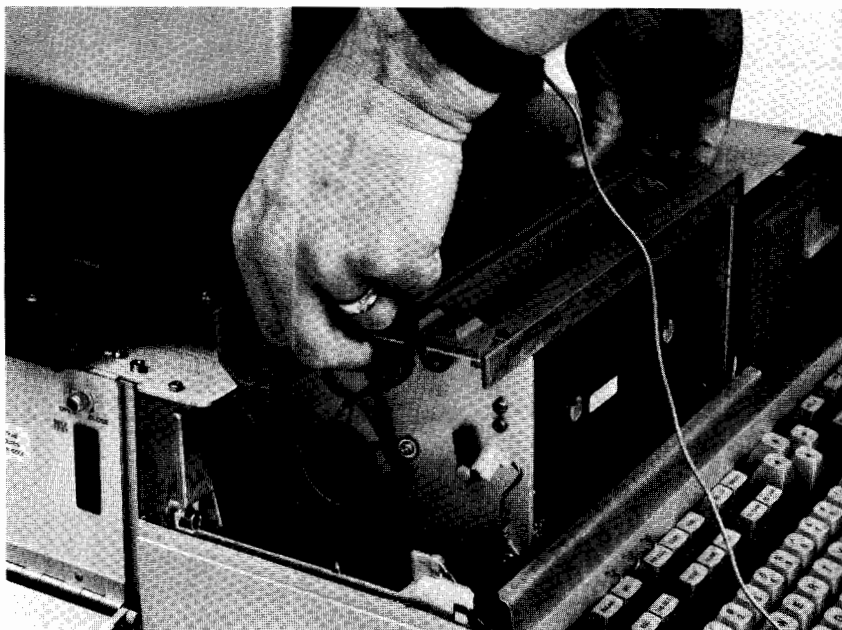

Figure 4-35. Removing Printer
5. Grasp printer (Figure 4-35) and lift printer up and out of computer.